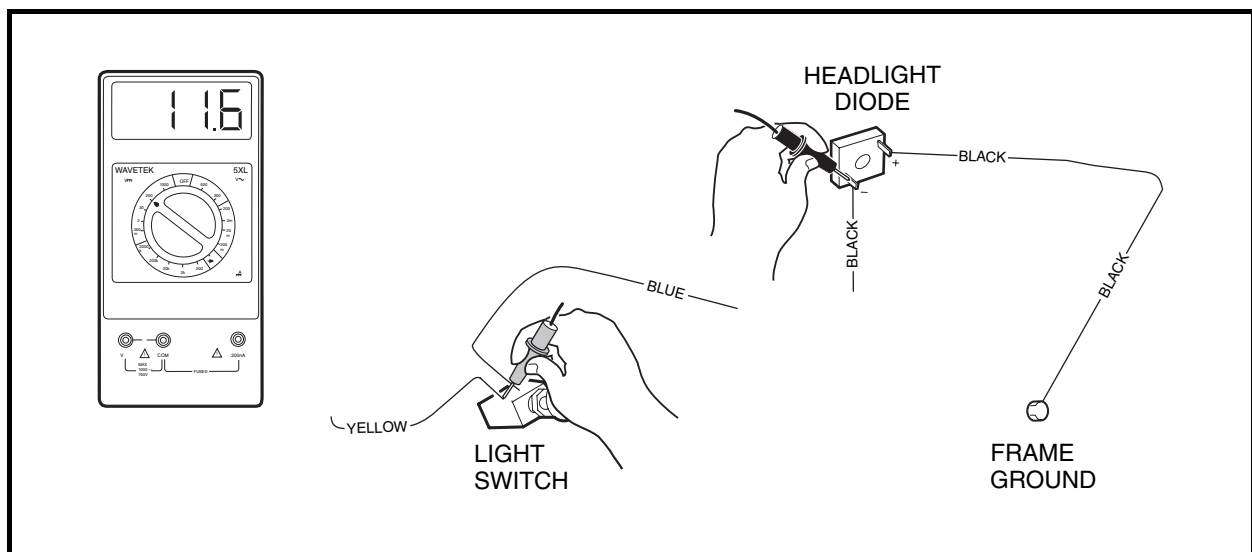

Figure 11-40 Headlight Diode Circuit Test
- Using a multimeter set on 20 volts DC, connect the red (+) probe to the light switch terminal with the yellow wire (**Figure 11-40, Page 11-37**).
- Loosen the black wire connector (on the end of the long black wire) at the headlight diode assembly just enough to maintain the connection and yet expose part of the metal terminal in the connector. Place black (-) probe on the connector (**Figure 11-40, Page 11-37**). **See following CAUTION.**